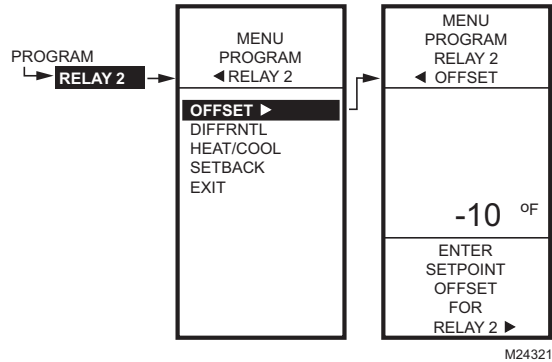

Fig. 11. Program Mode - Relay 2 Offset.
- Setpoint Offset = -10° F (-12° C) (See Fig. 11)